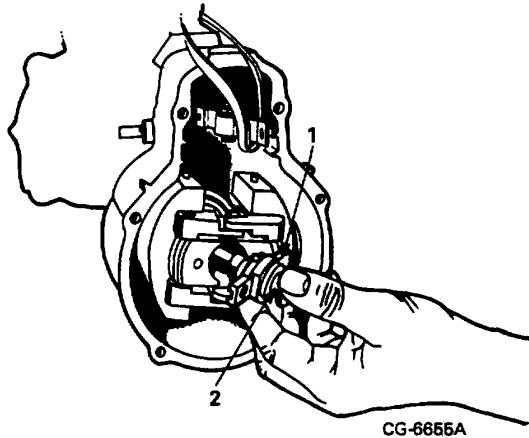

Figure 13. Removing Guide Bushing
10. Raise tabs on lock plates, remove two cap screws and take out guide bushing (Figure 13).